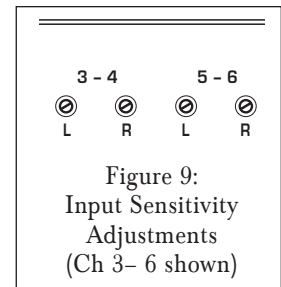

Figure 9:
- The front panel has recessed adjustment potentiometers (see *Figure 9*). These can be adjusted using a small screwdriver.